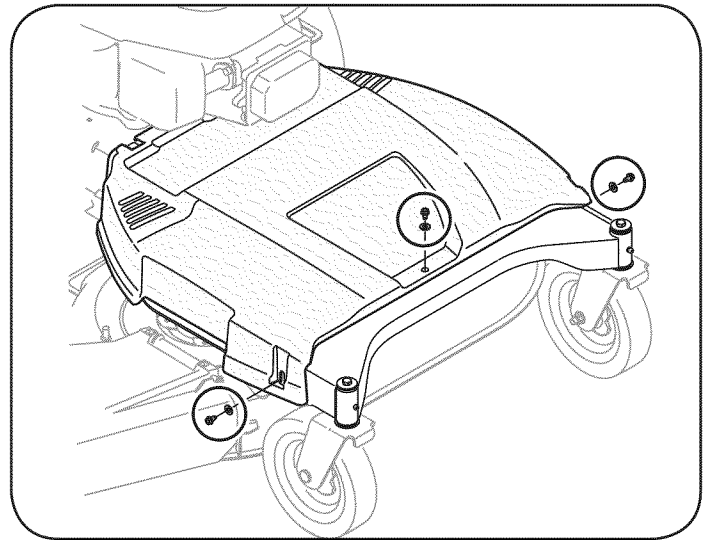

Figure 23
1. Remove the belt cover by removing the three screws and washers which secure it to the frame. See Figure 23.